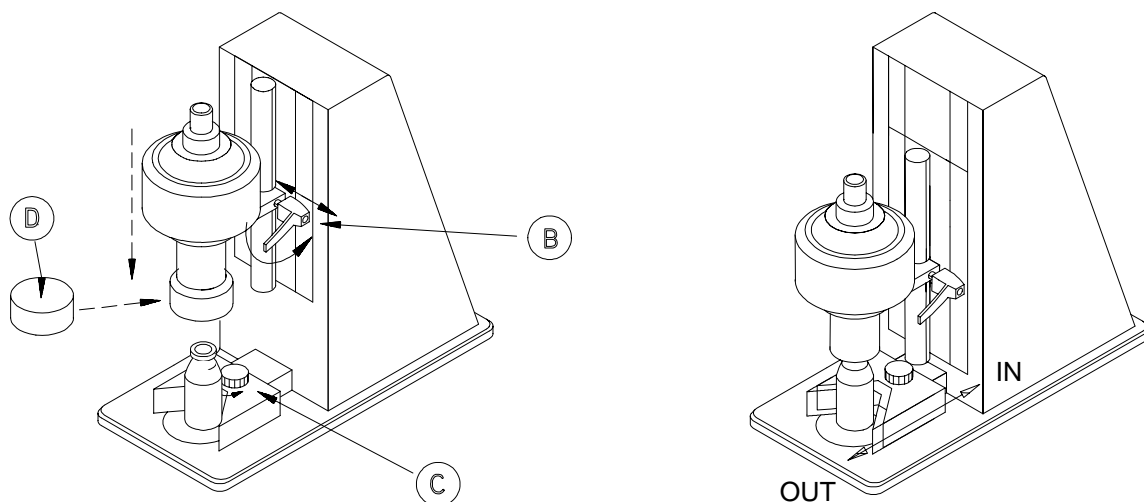

Fig. 3
4. Now adjust the bottle holder so the bottle is centred under the capping head – **WHEN THE BOTTLE HOLDER IS PUSHED "IN"** (see fig 3)